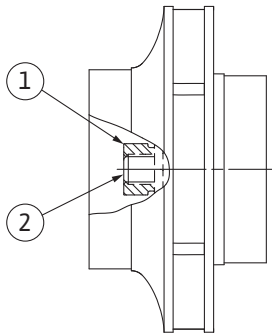

Fig. 106: Correct position of the impeller nut after installation
8. Hold the shaft with open-end wrench 7/8 in (22 mm width across flats) and tighten the impeller nut to the specified tightening torque (see table "Tightening torques" [► 25]). The nut (Fig. 106, Item 1) has to be about ± 0.02 in (0.5 mm) flush with the shaft end (Fig. 106, Item 2). If this is not the case, release the nut and repeat steps 4 – 8.